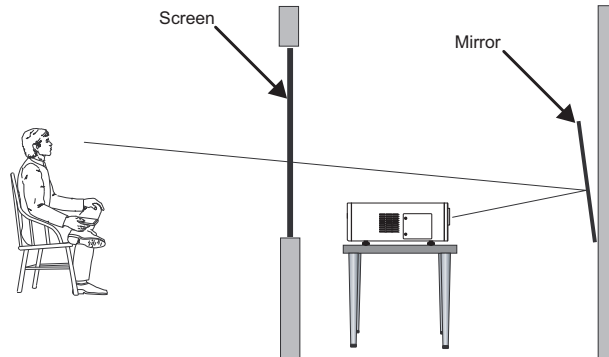

Figure 3-6. Folded Optics
- Folded Optics** ➤ In rear-screen applications where space behind the projector is limited, a mirror may be used to fold the optical path, as shown in Figure 3-6. The position of the projector and mirror must be accurately set. If you are considering this type of installation, contact your dealer for assistance.
- Rear Projection** ➤ If the projector is used in a rear-projection application (see Figure 3-6), press ▼ repeatedly to select Rear Projection from the System Menu. Press ◀ or ▶ to set it to **On**.